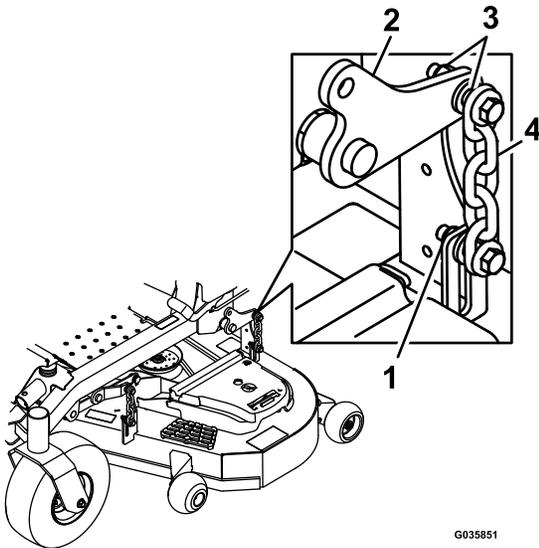

Figure 67
- Loosen the leveling adjust locking nuts (item 1 Figure 67) on all four corners so that the deck is sitting securely on all four blocks. Make sure that the slack is removed from the deck hangers and the deck lift foot lever is pushed back against the stop, then tighten the four leveling adjust locking nuts.